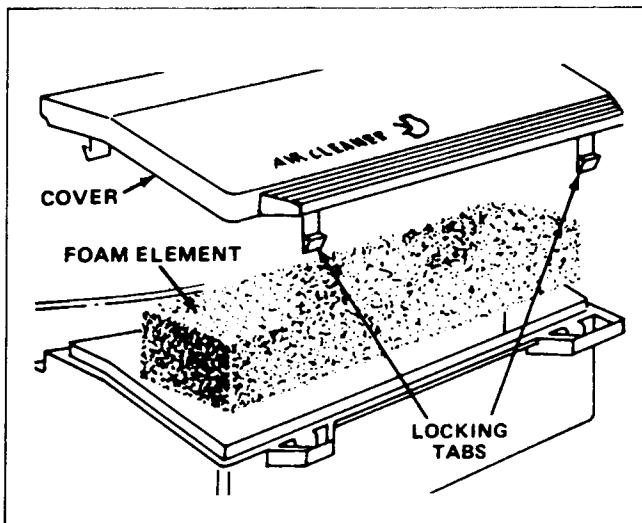

Figure 15
2. Push in the locking tabs and lift off the air cleaner cover. Clean cover thoroughly. See Figure 15.